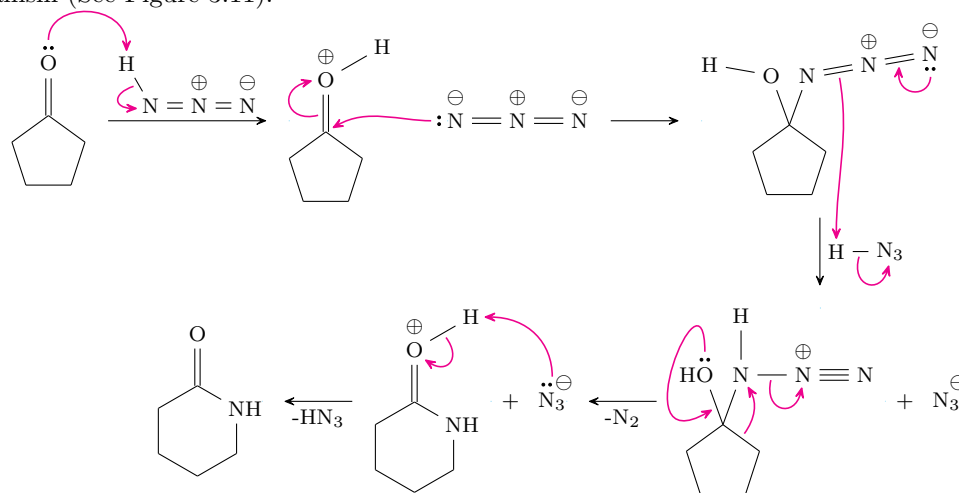

Figure 3.11: Schmidt reaction mechanism.
- Mechanism (See Figure 3.11).